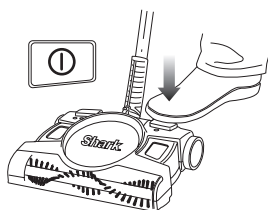

Fig. 3
- 1** Press the On/Off button to start the floor and carpet sweeper. The lights on the base will illuminate. When finished cleaning, press the On/Off button again to turn the unit off. (fig. 3)